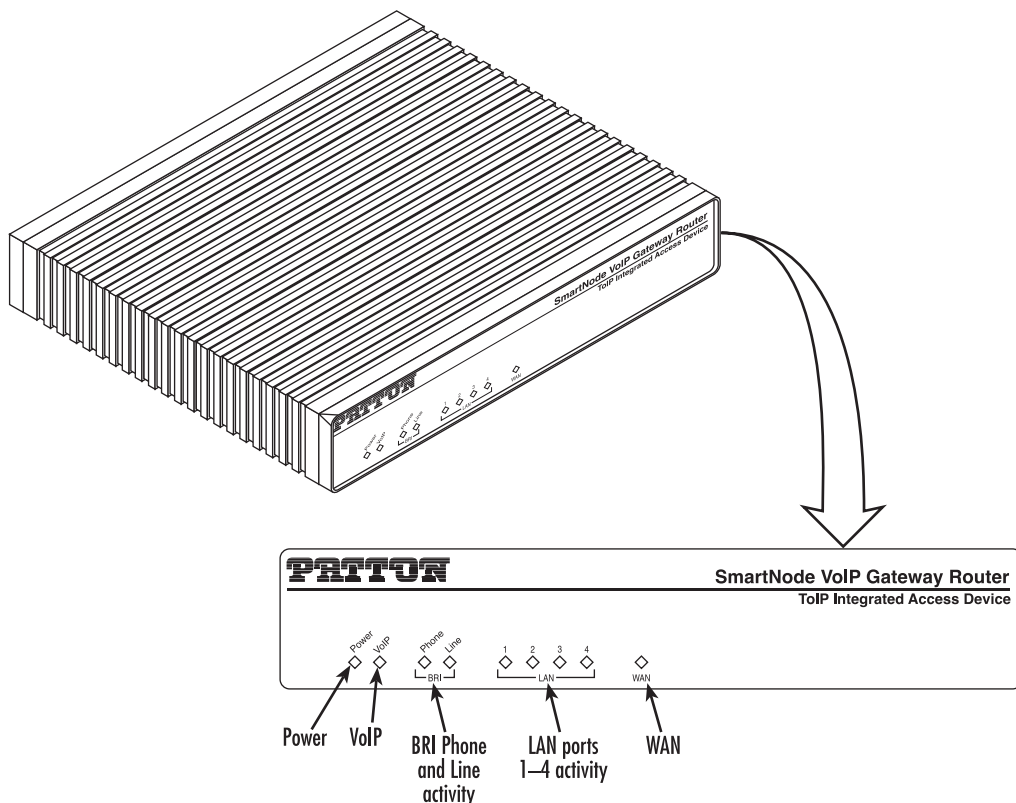

Figure 6. Router front panel LEDs
4. Verify that the green *Power* LED is lit (see figure 6).